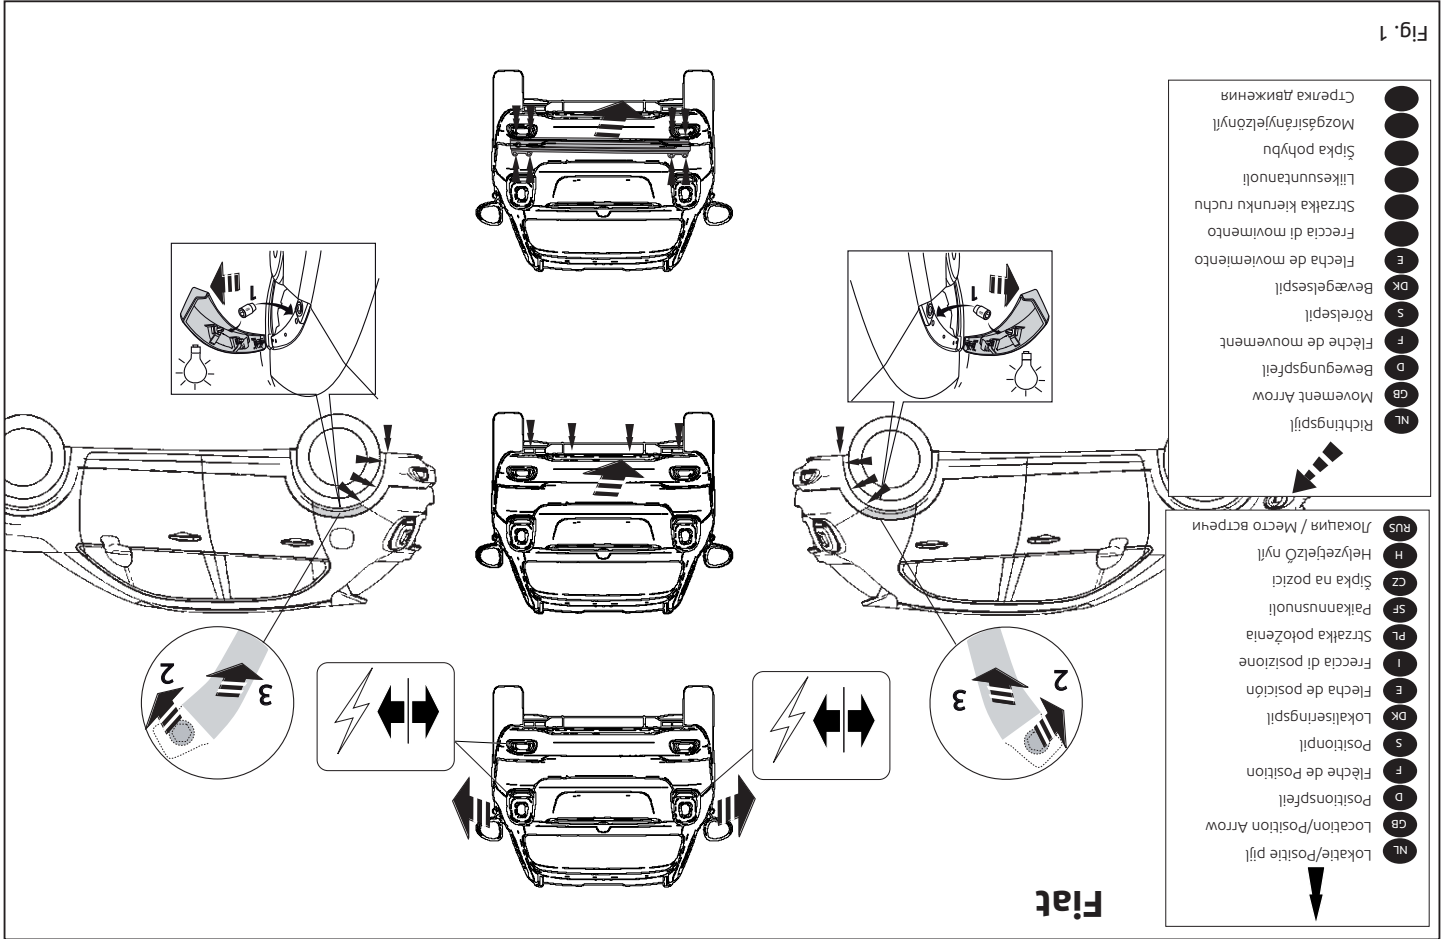

Fig. 1
1. Remove the rear-light units. Remove the bumper and the buffer beam from the vehicle. The buffer beam will no longer be needed. See figure 1, 1a.